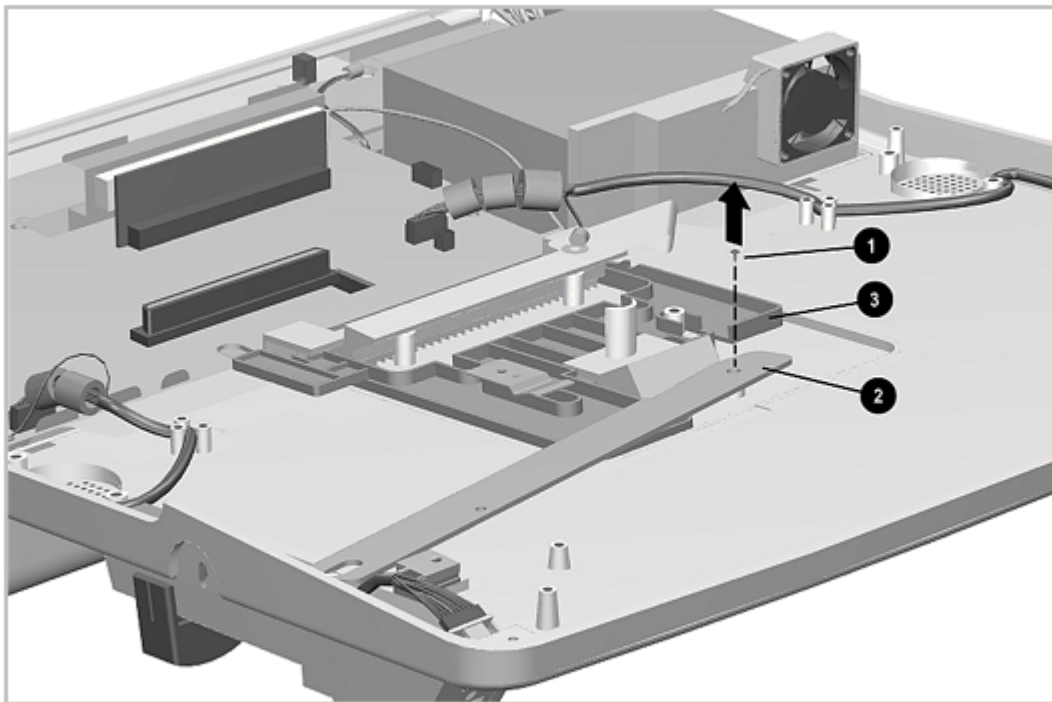

Figure 7-34. Disconnecting the Docking Bar from the Puller Plate
4. Remove the screw and washer [1] that connects the docking bar [2] to the puller plate assembly [3] (Figure 7-34)